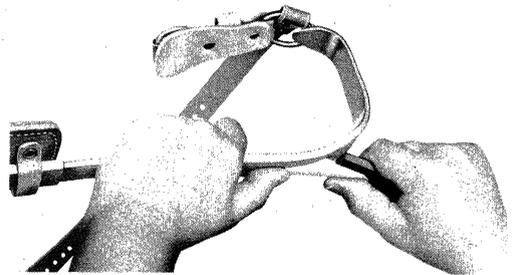

Fig. 19—Honing Inner Surface
7.04 Hone the inner surface of the gaff by starting the stroke near the leg iron and continue over the rounded curve of the tip as indicated in Fig. 19. Stop the honing stroke before the stone slides off the end of the gaff to prevent dulling the tip. About 20 to 25 strokes of the honing stone should be enough. **Do not attempt to reshape the tip of the gaff.**